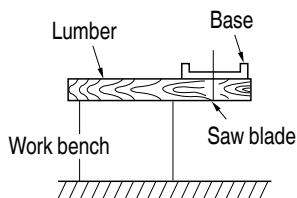

Fig. 5
7. Prepare a wooden work bench (Fig. 5)